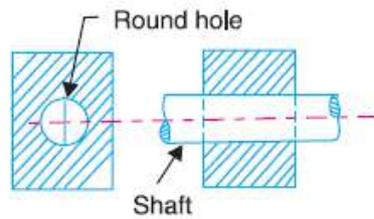

Fig. 1.3
- When the motion between a pair can take place in more than one direction, then the motion is called an incompletely constrained motion. The change in the direction of impressed force may alter the direction of relative motion between the pair. A circular bar or shaft in a circular hole, as shown in Fig. 1.3, is an